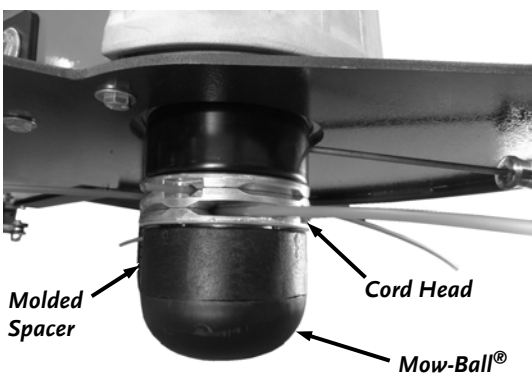

Figure 23
11. Tighten the assembly securely by turning the Mow-Ball® counterclockwise when looking down on the top of the Frame (**Figure 23**).